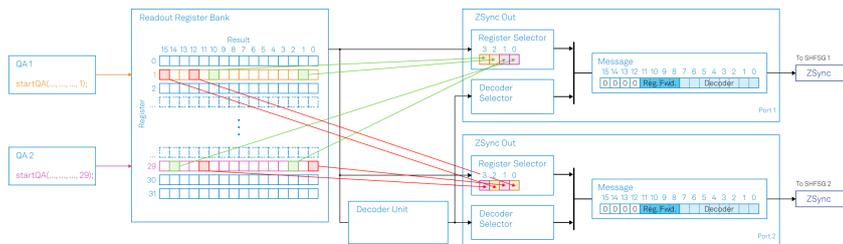

Figure 1.1: An example of register forwarding in the PQSC until LabOne 23.02
In this example, there are two QA channels writing their readout results in register 1 and 29 respectively. The PQSC is configured to forward eight results to two different instruments connected to the first two ZSync ports, as shown in Figure 1.1. When a QA performs a readout, its results are automatically written in the readout register specified in the fourth argument of the `startQA` command, and the PQSC automatically forwards the chosen results.
To configure the PQSC as in Figure 1.1, its nodes should be programmed as in Table 1.1.
Like in the previous example, there are two QA channels writing their readout results in register 1 and 29 respectively. QA1 is configured such that two results (X and Y) are the output of Multi State Discrimination (MSD), so each is composed by two bits, while another (Z) is the result of regular discrimination, so it uses only one bit. The QA2 produces three results (I, J and K) from regular discrimination, so a total of three bits. The PQSC is configured to forward these results to two different instruments connected to the first two ZSync ports, as shown in Figure 1.1. A third instrument is configured to receive the output of the decoder unit. For clarity in this example, the register forwarding is sending only three results per port instead of the maximum of eight and the configuration of the decoder unit is omitted.